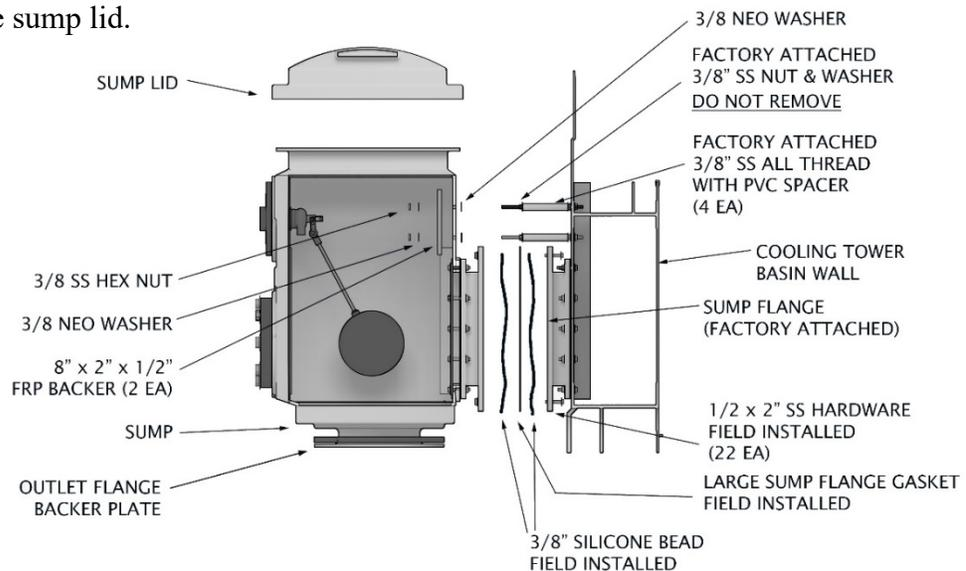

Figure 35 – Sump Installation Detail
Refer to Figure 35.
**CAUTION** Two FRP backer supports are provided with one backer support having two holes accommodating the two left facing all-thread rods and the second backer support accommodating the two right facing all-thread rods. Sealant must be used between the backer support plate and the sump wall around each hole. **REFER TO FIGURE 35.**